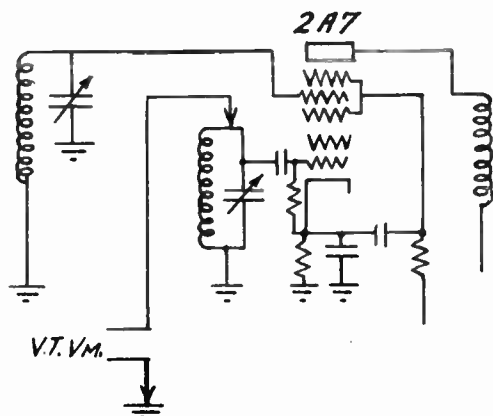

Figure 24
- 5.18—One of the most important measurements that can be made on a superheterodyne receiver is that of oscillator performance. To make this measurement the vacuum tube voltmeter should be set on its highest range. Connection can then be made from the stationary plates of the oscillator tuning condenser to ground. For this connection it is recommended that the grid be connected to the stationary plate and the ground terminal to the chassis. See Figure 24.